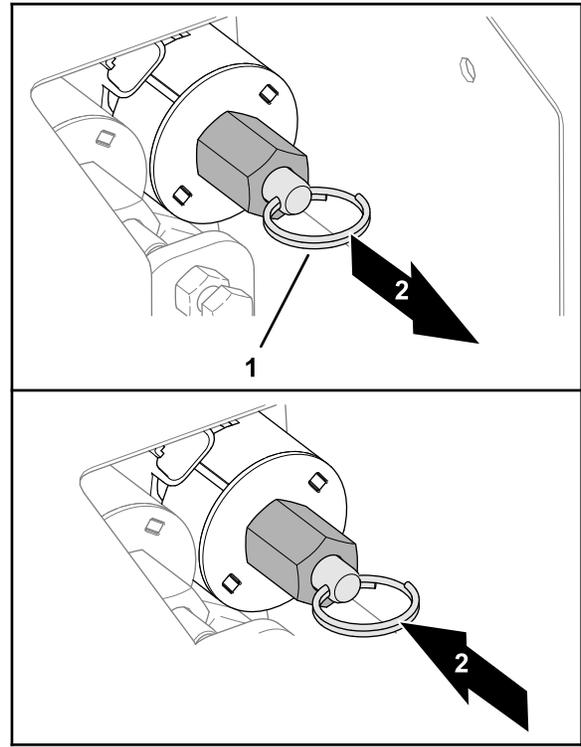

Figure 32
- To lower the hopper (Figure 32), pull the ring on the valve stem.
- To raise the hopper (Figure 32), push the split ring on the valve stem.